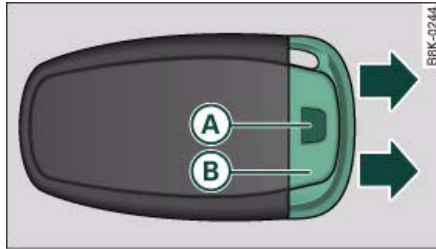
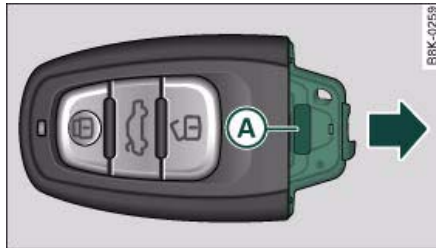

Fig. 32 Remote control key: Removing the emergency key
Fig. 33 Remote control key: Removing the battery carrier
- Press the release button (A) ⇒ fig. 32.
- Pull the emergency key (B) out of the remote control key.
- Press the release catch (A) ⇒ fig. 33 on the battery carrier and at the same time pull the battery carrier out of the remote control key in the direction of the arrow.